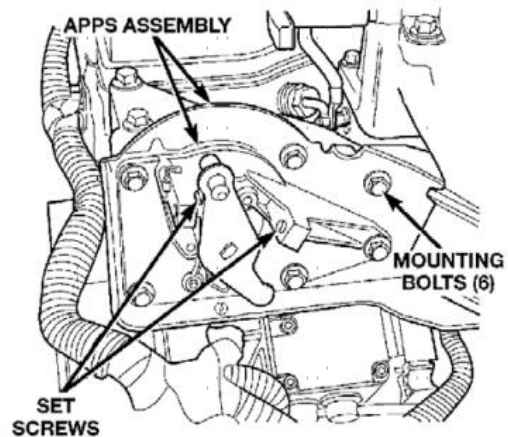

Figure 1
2. Remove the six mounting bolts (figure 1) and partial pull the assembly away from the engine. Be sure not to place excessive strain on cables or electrical connector.
4. Rotate the sensor until APPS voltage reads 0.55V +/- 0.05V. The set screws (figure 1) should not be adjusted. Tighten the Torx screws to a final torque of 50 in. lbs. Verify that the reading is still within the specified range after the Torx screws have been tightened. Turn the key to the off position.